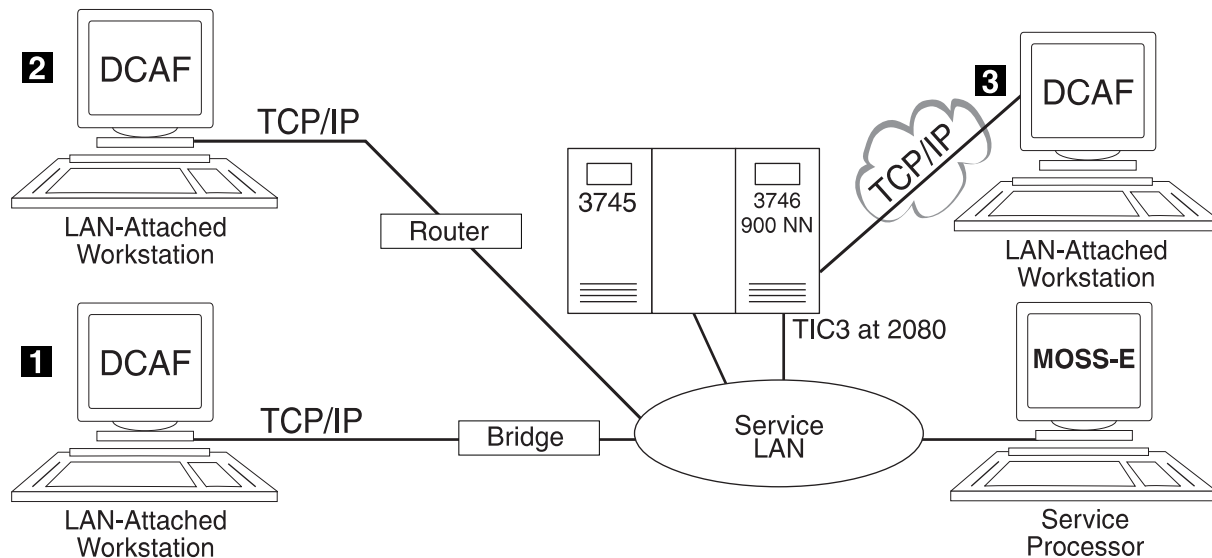

Figure 7-1. Types of TCP/IP Service LAN-Attached Remote Workstations
- A **bridge** with filtering to the service LAN (see **1** in Figure 7-1).
- A **non-3746** router (see **2** in Figure 7-1)
- The **3746** router (see **3** in Figure 7-1)
**Step 5.** Record the **Service Processor IP address** (this will be used in Step 7 on page 7-4). If you have a link through the 3746 (see **3** in Figure 7-1 on page 7-1), enter the **TIC3 2080** address in the **SP default router** field and click **Next** and **Close**.